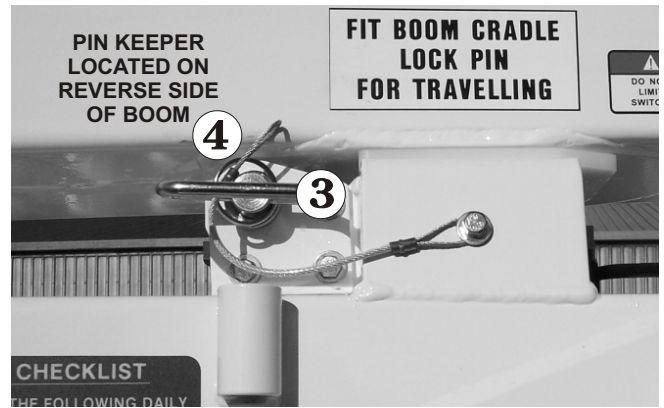

Figure 12.3 - Upper Boom restraining Lock
4. Insert the upper boom restraining lock pin ③ and ensure the pin keeper ④ is correctly locked in place (see Figure 12.3).